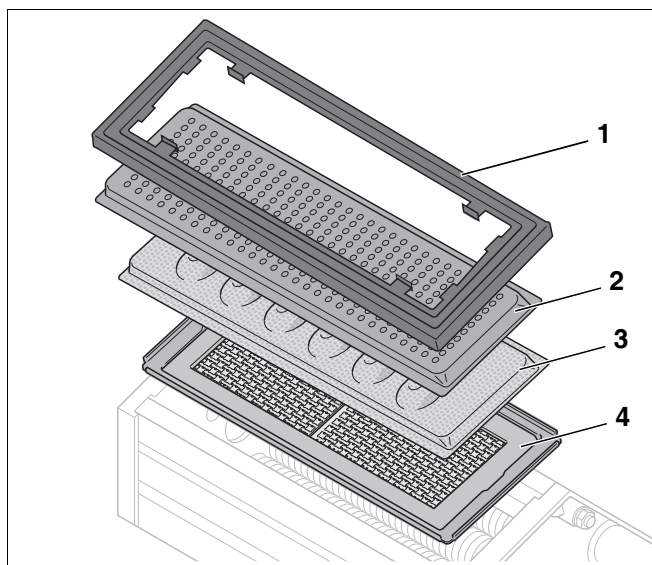

fig. 78 Removing the burner
- Remove the burner gasket (see fig. 78, pos. 1).
- Remove the gas/air distributor plate (see fig. 78, pos. 2).
- Remove the orifice plate (only applies to Logamax plus GB142-24/30 and GB142-60) (see fig. 78, pos. 3). Note that the orifice plate of the GB142-60 has a different shape.
- Remove the burner (see fig. 78, pos. 4).